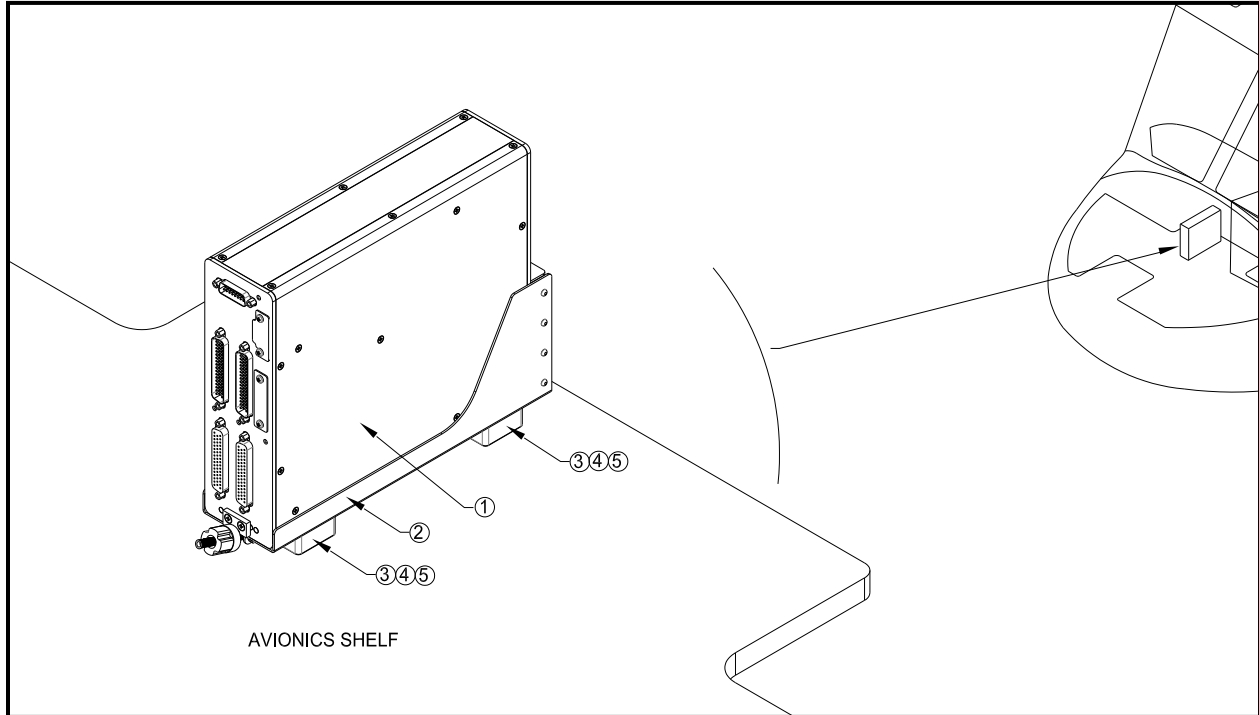

Figure 6: Bell 204/205/212/214/412 Series Digital Router Installation Overview
- b. Loosen the thumb screw securing the router into the tray and slide the router out of the tray shown in Figure 6.
- c. Remove the (4) MS24693S276 Screws and (2) Shims connecting the Tray to the avionics bay shelf as shown in Figure 6.
Parts List for Figure 6: For Router G13000 Installation
Parts List for Figure 6: For Router G13160 Installation